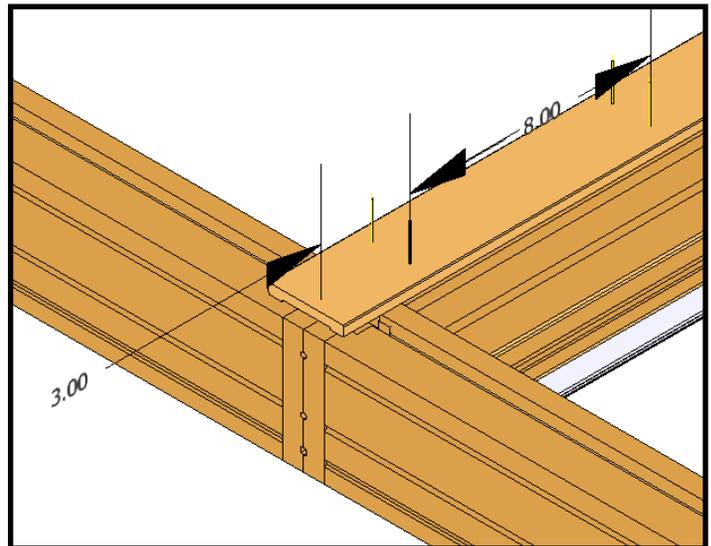

Figure 4
E. Measure, Cut, and staple inside mull cover, Staple 3" from frames edge and every 8"-10" down the length of the mull then turn the unit clad side up (figure 4).